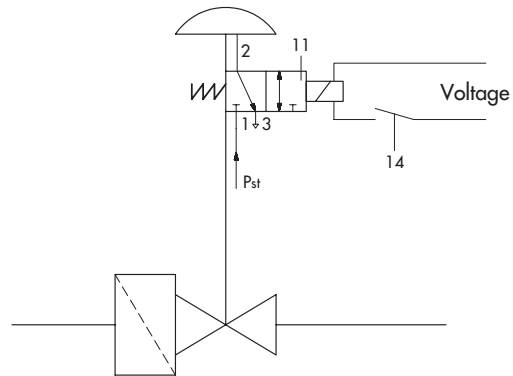

Fig. 3 · Schematics of version without positioner
The signal pressure p_{st} is applied to the pilot valve (11) whose coil is connected to the safety interlock circuit (switch 14, Figs. 3 and 4). During operation, the coil is energized and the signal pressure p_{st} acts on the diaphragm. In the event of a malfunction, the pilot valve switches over and the pressure acting on the diaphragm is relieved. The standard valve version then closes quickly.